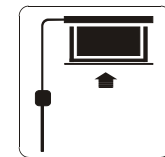

Figure 21
3. Turn the switch to position "-" to retract the screen; it will go up into the metal casing. When it is all the way up, it will stop automatically (Figure 21).